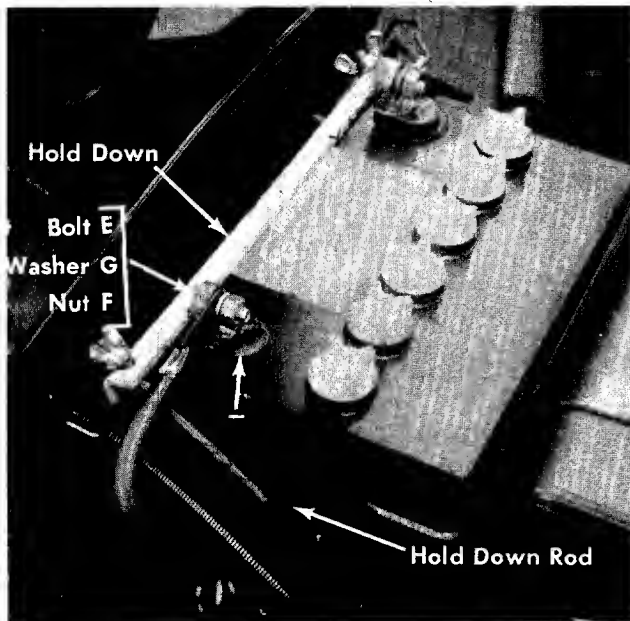

FIGURE 6. INSTALLING THE BATTERY
- b. Place the battery in the battery case with the terminals to the rear. See figure 6.